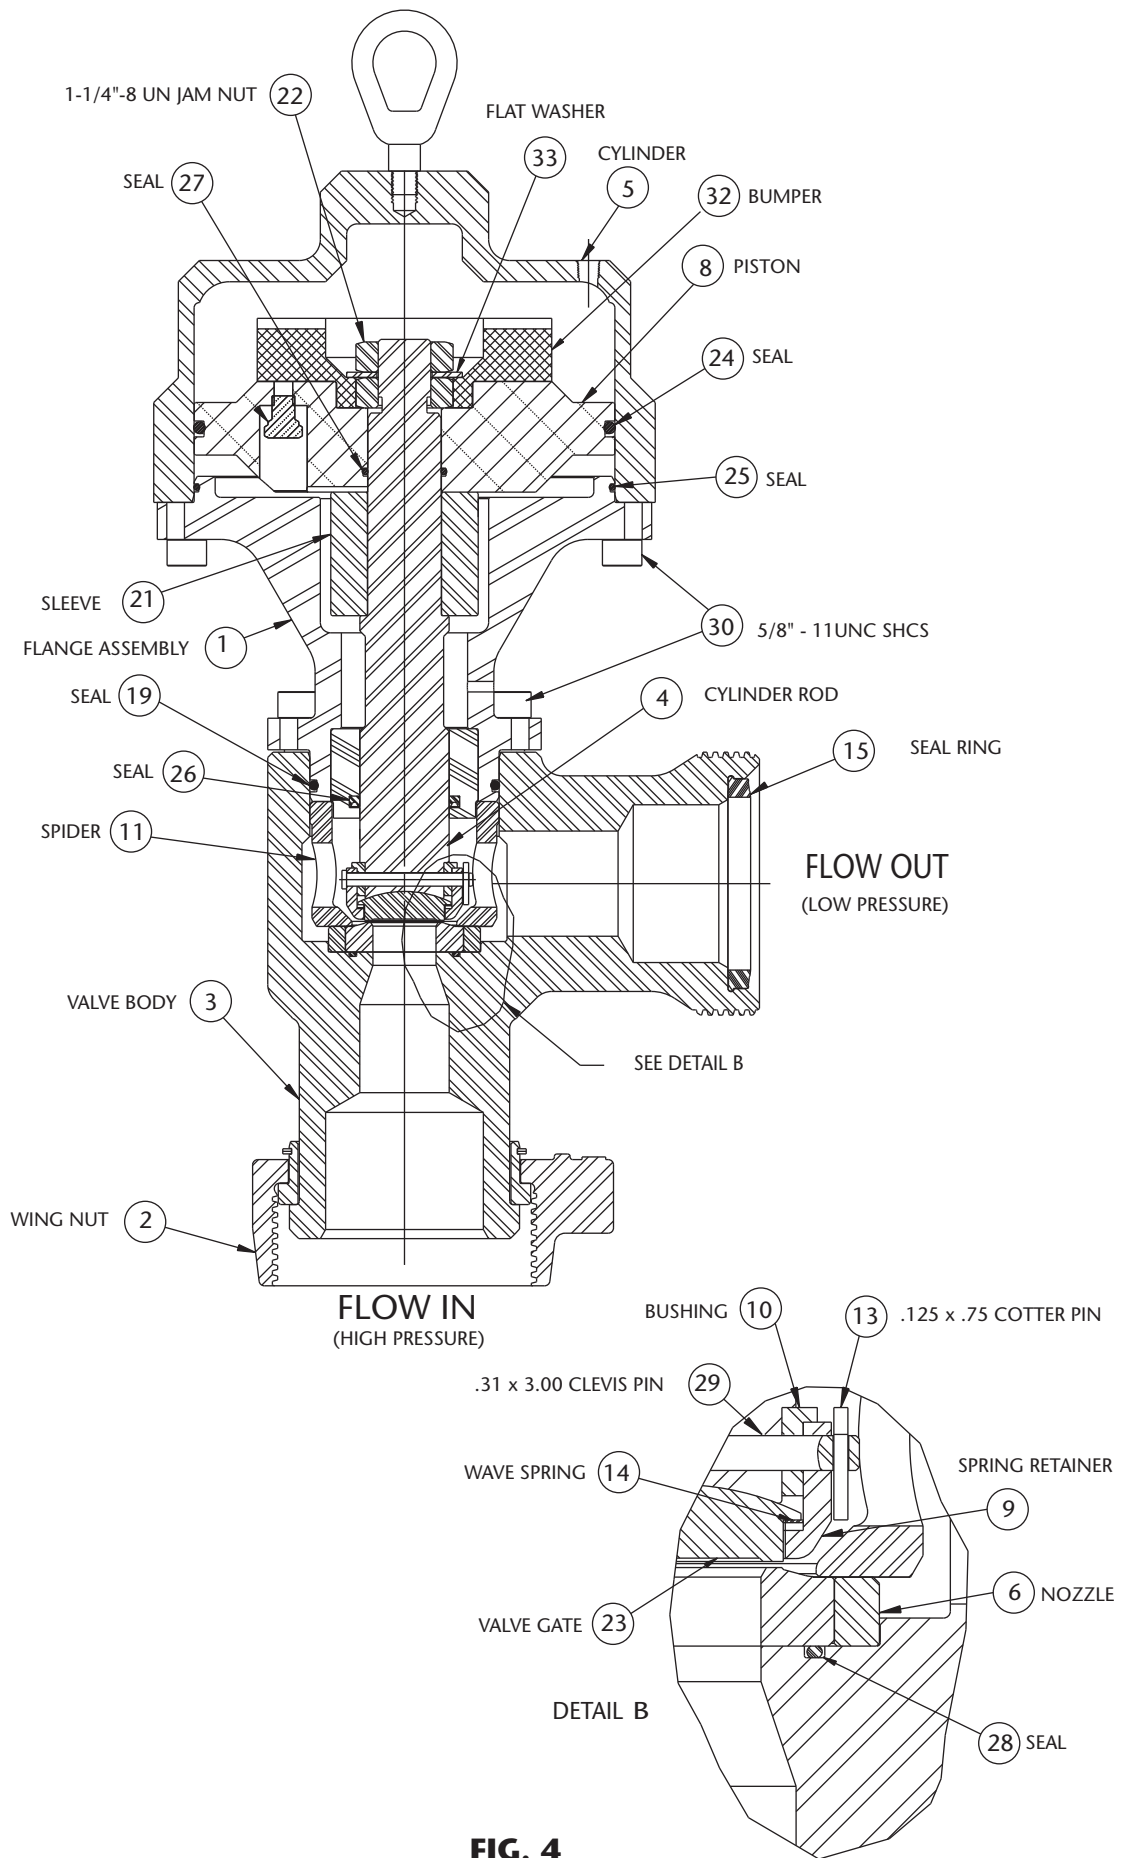

FIG. 4
2. Secure the valve in a horizontal position by clamping the valve body (3) in a vise (Fig. 4).
3. Remove the eight lower and ten upper 5/8" socket screws (30) from the flange (1). Separate the cylinder (5) from the flange (1). If piston extraction is difficult after jackscrews are fully extended replace with 1/2 -13 UNC x 1 1/2 LG or longer bolts for easier disassembly. Separate the flange (1) from the body (3) by using jackscrews. Remove the entire bonnet assembly from the body.
4. Remove the cotter pin (13) from the clevis pin (29). Remove the clevis pin (29) from the cylinder rod (4). The valve gate (23), wave spring (14), spring retainer (9), and bushing (10) can now be removed from the cylinder rod (4). Remove the piston (8) with the cylinder rod from the flange assembly (1).
5. Hold the cylinder rod (4) by the flat at its mid length. Exercise care not to damage the rod's other surfaces. Remove the hex jam nut (22) and washer (33) from the cylinder rod (4). The bumper (32) can now be removed. Remove the jam nut (22). Then the piston (8) and sleeve (21) can be removed.
6. Remove the spider (11) from the valve body (3). Remove the nozzle (6) along with the seat (12) from the body.
7. Gently remove the seal (28) from the valve body (3).
Inspecting Components: (Fig. 4)
- The reassembly of the valve is in approximate reverse order to the disassembly process. Ref (Fig. 4).
1. Install seal (28) into valve body. Replace nozzle (6) and fit over seal (28). **CAUTION:** If seal (28) is difficult to seat, push into place with seat and tap lightly. Remove seat to ensure seal is properly seated. Install the spider (11) into the valve body (3) and fit to the nozzle (6).
2. Secure the cylinder rod (4) in a vertical position using the flats at its mid length.
3. Install the sleeve (21) and the piston (8) with seals (27) and (24) onto cylinder rod (4). Secure the piston (8) with jam nut (22) using blue Loctite. Install bumper (32), washer (33) and hex jam nut (22) using blue Loctite.
4. Install seals (25), (26) and (19) into the flange assembly (1). Uniformly apply a small amount of anti-seize compound on the inside friction surface of the nylon bushing of the flange assembly (1). Carefully insert the cylinder rod (4) with piston (8) into the flange assembly (1).
5. Insert wave spring (14) into spring retainer (9) followed by new or polished valve gate (23). Install the bushing (10) into spring retainer (9). Assemble the spring retainer (9) and the cylinder rod (4) together by using the clevis pin (29). Secure the clevis pin (29) by cotter pin (13).
6. Install the entire cylinder rod-flange package into the valve body (3). Tighten the eight 5/8" socket screws (30) that hold the flange assembly (1) to the body (3) using proper torque orientation to 110 ft-lb (lubricated).
7. Install cylinder (5) onto flange (1) and tighten the ten 5/8" socket screws (30) using proper torque orientation to 110 ft-lb (lubricated).
6. Reduce the line pressure until the valve gate (23) is fully seated on the nozzle (6) (See Fig. 4).